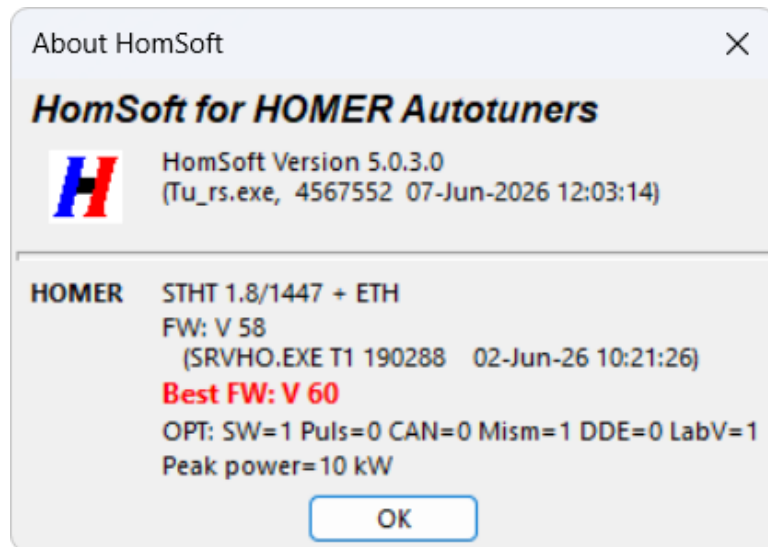

Fig. 45. About window example.
Opens the **About** window (Fig. 45). The **About** window displays the current **HomSoft** and Server versions, alongside hardware (HW) and firmware (FW) details. The hardware identification includes the Homer model name and indicates if a STEIPA Ethernet/IP adapter is present (denoted by + ETH). The FW section lists the installed firmware version as well as the recommended version (Best FW) if not installed. Available Homer options are listed under the OPT heading, where the active features are indicated by 1 and the inactive features by 0. For a full list and detailed explanations of Homer options, please refer to the product data sheet. Always include a screenshot of this window when reporting problems.